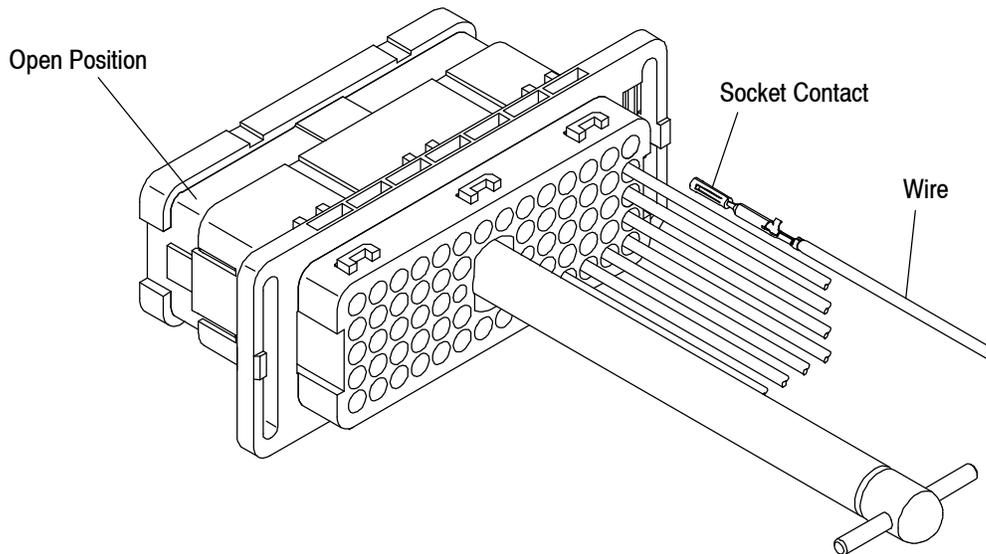

Figure 5
1. Insert the crimped socket contact into the wire side of the plug assembly by grasping the wire directly behind the insulation barrel and pushing the contact into the cavity until the contact stops and the contact locking latches are engaged. See Figure 5.
After the contacts have been fully inserted, pull back lightly on the wire with a force of 4.5 to 8.9 N [1 to 2 lbs]. This will ensure that the contact is locked in place as shown in Figure 5.